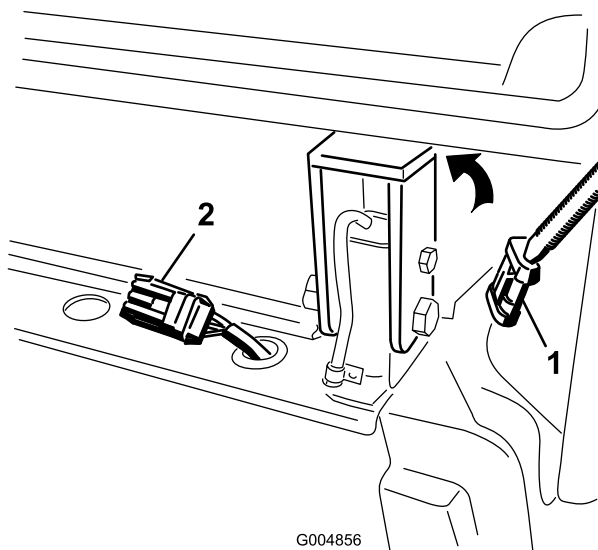

Figure 78
17. Unplug the cab harness connector (Figure 78) and install the cap onto the connector.